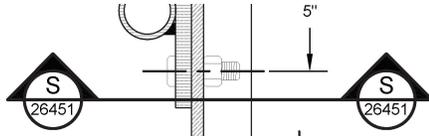
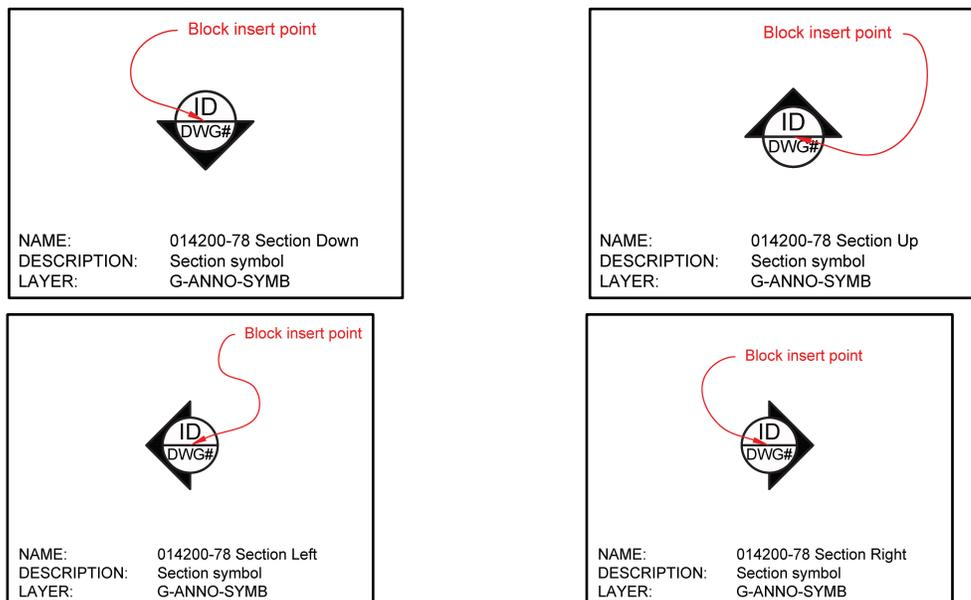
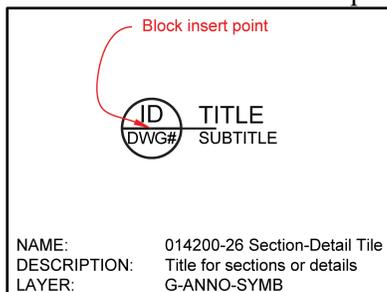

Figure 3-Example of Section in a Drawing
Figure 4-Block 014200-78 Section Cut Reference
Figure 5-Block 014200-26 Section-Detail Title
2. Sections shall be identified by **letter** using the symbols indicated in Figure 4.
Sections shall be identified within a drawing using Blocks 014200-78 Section. The four variants of Block 014200-78 of down, up, left, and right are shown in Figure 4. Unless it makes the drawing less readable, a line shall be drawn between each section symbol as indicated in Figure 3. This line shall be placed on the same layer as the section symbol (G-ANNO-SYMB see Table 2) and shall have a lineweight of at least 0.024" (see Table 3).
- c. Please ensure that sections are called via only a single letter. For example, in Figure 3, the section would be identified as Section S, not Section SS or Section S-S. If geological cross sections are provided in a drawing, this requirement can be ignored since a geological cross section will identify both the starting point and the ending point.
An elevation is a view of building from one side. In essence, it is an external section of a building although section symbols (Figure 4) are not used. Elevations are usually identified as Front Elevation, West Elevation, North Elevation, SE Elevation, etc. Identification of elevations shall use Block 014200 (Figure 5).